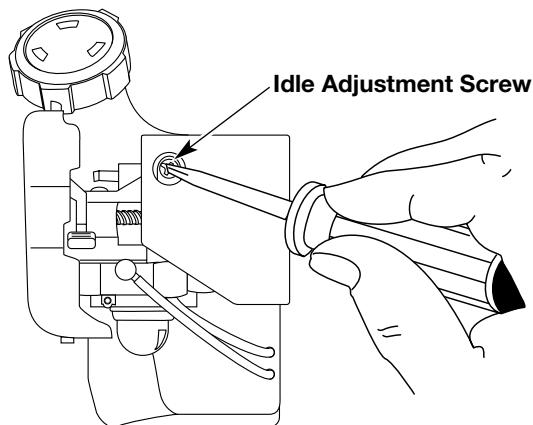

Fig. 37
The idle speed of the engine is adjustable. An idle adjustment screw is reached though a hole in the top of the engine cover (Fig 37).
2. Release the throttle trigger and let the engine idle. If the engine stops, insert a small phillips or flat blade screwdriver into the hole in the engine cover (Fig. 37). Turn the idle speed screw in, clockwise, 1/8 of a turn at a time (as needed) until the engine idles smoothly.